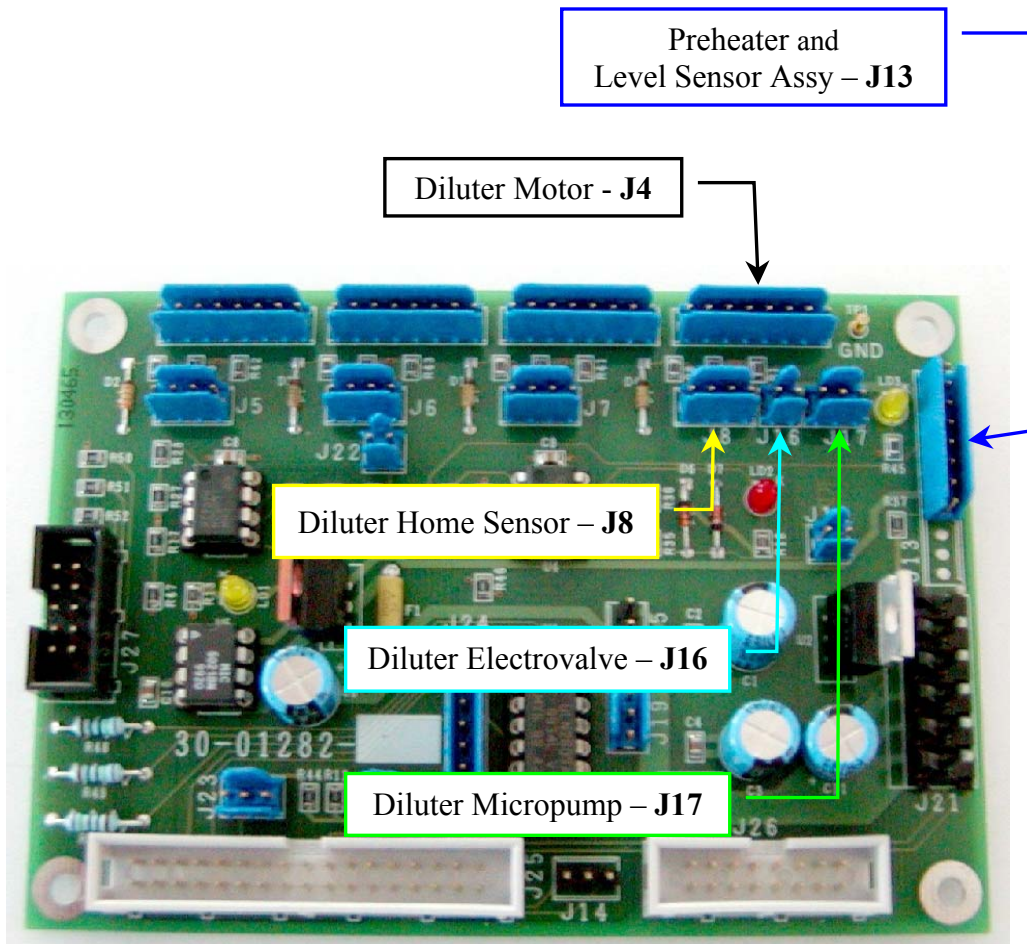

Fig. 30 - Arm Interface Board (Dx) [P/N: 30-01282-01]
4. Take off the Rinse Solution cannula (I) from its bottle.
5. Unplug the J4, J8, J16, J17 connectors from the Arm Interface Board (Fig. 30) and the ground wire from the Diluter Module.